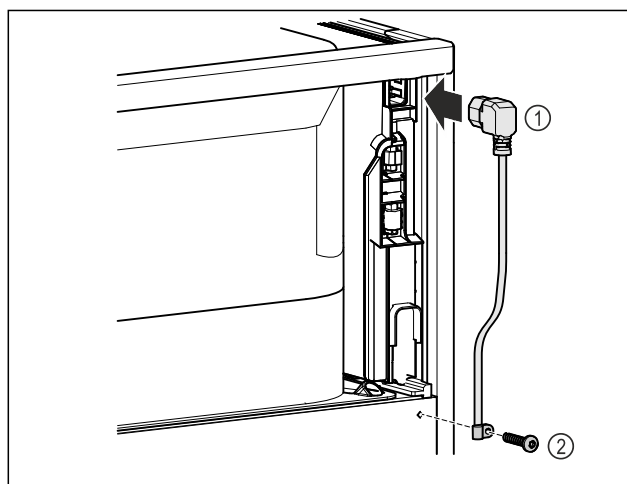

Fig. 46
- IEC socket of the power cable Fig. 46 (1) on the rear side of the appliance.
- Install mains tension relief. Fig. 46 (2)